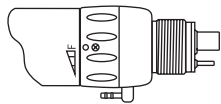

Fig. 3
- (1) Forward Rotation : Turn the FWD/REV Change Ring to “F” as shown in Fig. 3.